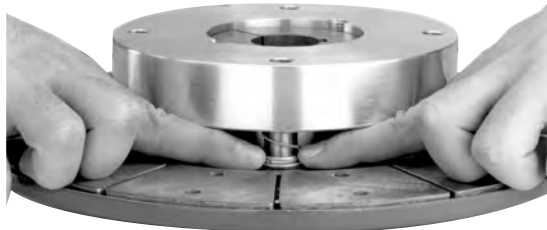

Figure 19 - Positioning the detent cups in the armature.
Step 6: Place the armature hub assembly on a flat surface with the armature working face up. Push down on each detent cup (Item 6) with your fingers, pushing the armature down until the armature will not move down any further. (See Figure 19)